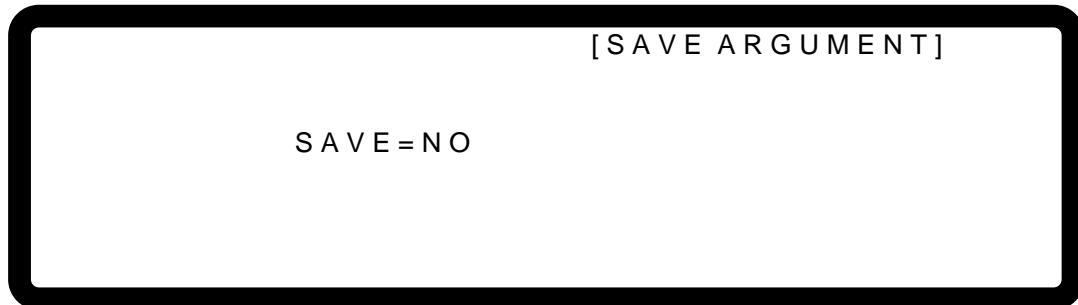

Figure 3-147
10. The current calibration is done when the above actions are completed. To save the calibrated values, press “” and a confirmation screen will appear as shown in Figure 3-147. Press “” or turn the “Rotary” () knob to set SAVE=YES and press